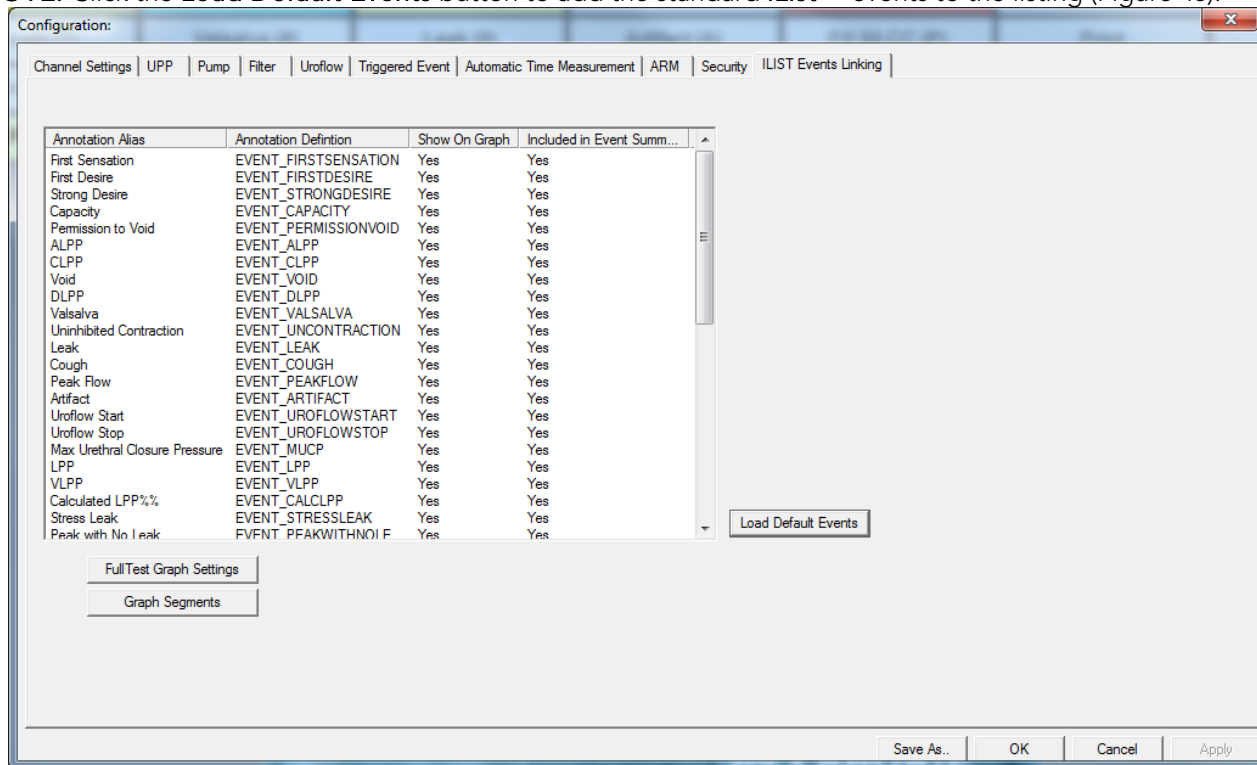

Figure 45: Configuration – iList Even Linking Tab
**NOTE:** Click the **Load Default Events** button to add the standard iList™ events to the listing (Figure 45).